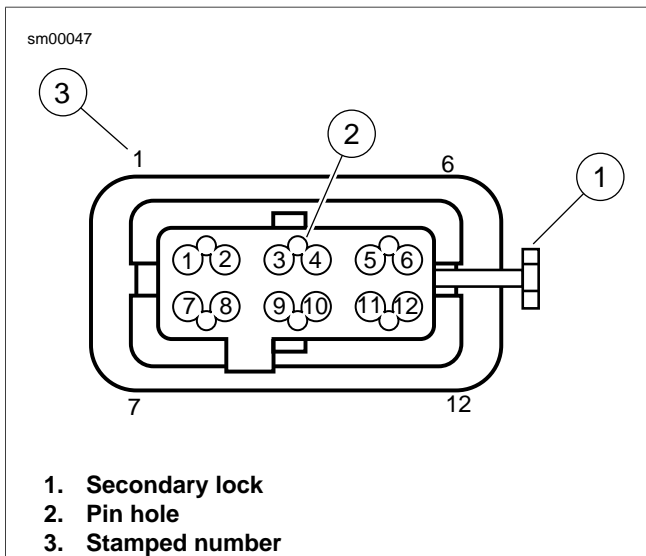

Figure A-18. Delphi Micro-64 Sealed Connector: Housing
1. See Figure A-18. Locate the head of the secondary lock (1) on one side of the connector housing.
3. Locate pin hole (2) between terminals on mating end of connector.